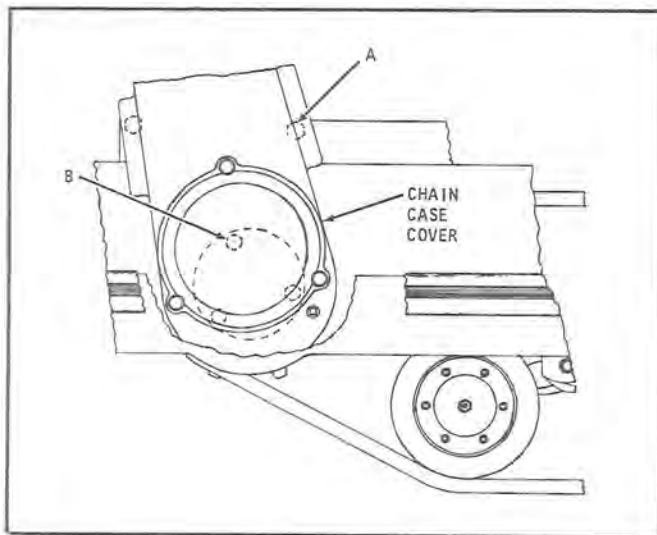

Figure 6
2. Remove the screws securing the chain case cover and remove the cover (figure 6).